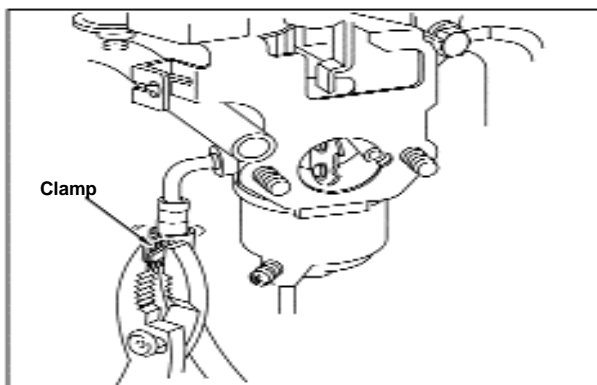

Figure 78 - Remove Fuel Line at Carburetor
4. Disconnect fuel supply hose from fuel pump, at carburetor inlet fitting. See Figure 78.
8. Connect fuel hose from fuel pump to carburetor inlet fitting. See Figure 78.